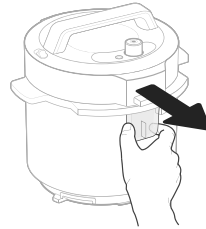

Figure 10.5
- 1. Remove the condensation collector by gripping each side with your thumb and pointer finger and pulling away from the pressure cooker. [Figure 10.5]